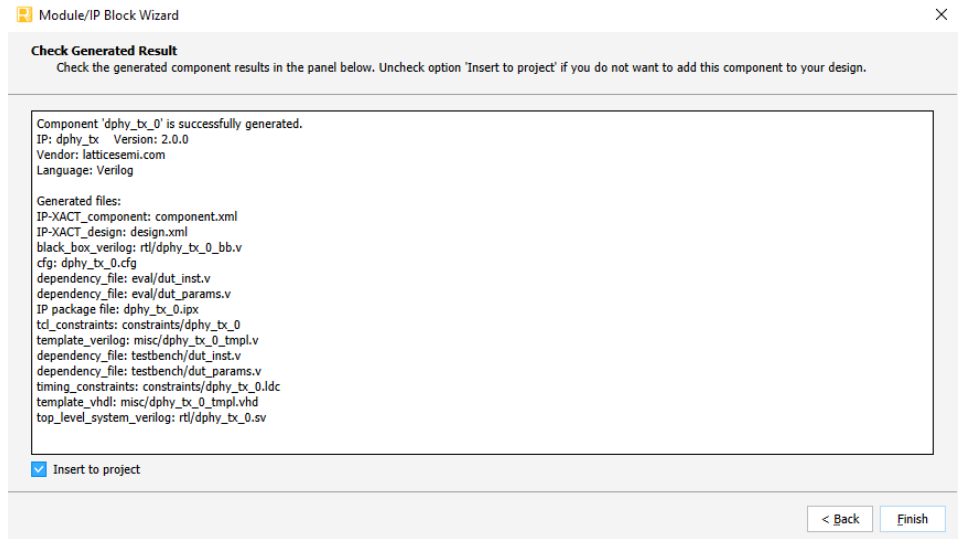

Figure 6.3. Check Generated Result
4. Click **Generate**. The **Check Generated Result** dialog box opens, showing design block messages and results as shown in Figure 6.3.